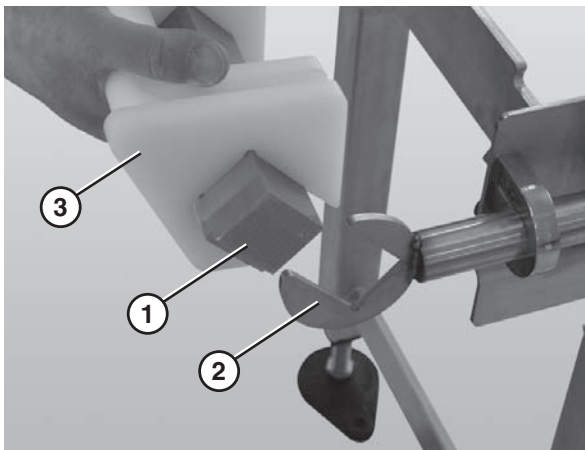

Figure 69
4. After all tracking pucks (Figure 69, item 3) are installed, slide the nose bar drive or transfer post (Figure 69, item 1) into of the nose bar drive weldment or idler hands (Figure 69, item 2).